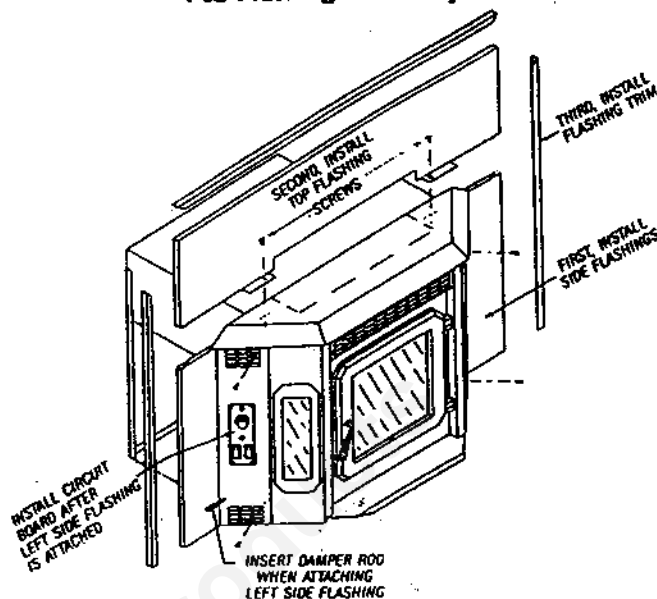

FIGURE 9
- Attach flashing (see figure 9), route power cord out the side nearest a 120V receptacle. Slide in insert. Seal is not necessary. Do not restrict air to or from vents in flashing.